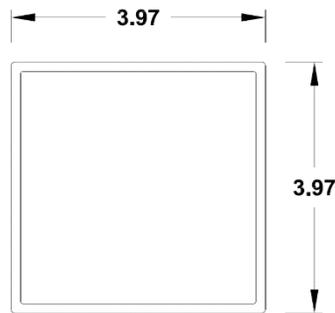

FIGURE 3 – POST SLEEVE
**3.5.1** Conventional wood framing. Coextruded M-PVC post sleeves are installed over a conventional 4x4 preservative-treated wood post (see Figure 3).
**3.5.2** *Deckorators Deck Post Mount* (also known as *Atlas-Pro Quik-Mount Post Mount*) System. M-PVC post sleeves and post spacers are installed over the post mount (see Figure 3). The *Deckorators Deck Post Mount* System is documented in Intertek CCRR-0257.
**3.5.3** LMT *Blu-Mount* Post Mount System. M-PVC post sleeves and post spacers are installed over the post mount (see Figure 3).
**3.5.4** LMT *LC Galvanized* Post Mount System. M-PVC post sleeves and post spacers are installed over the post mount (see Figure 3).